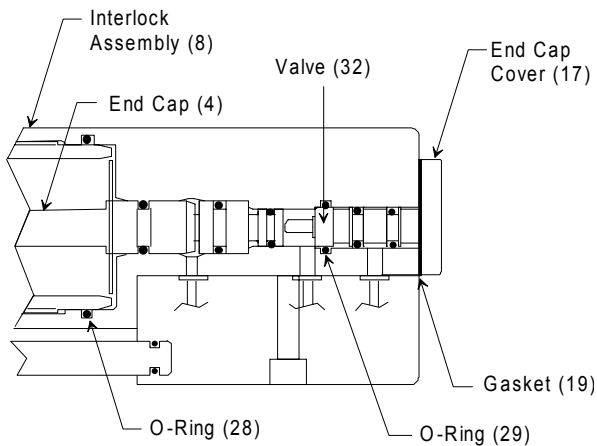

Figure 3-04
- 3.3.6.1 Remove the safety interlock assembly (8) by pulling it out of the end cap (*ref fig. 3-04*). Seal friction is all that holds the interlock assembly in place.